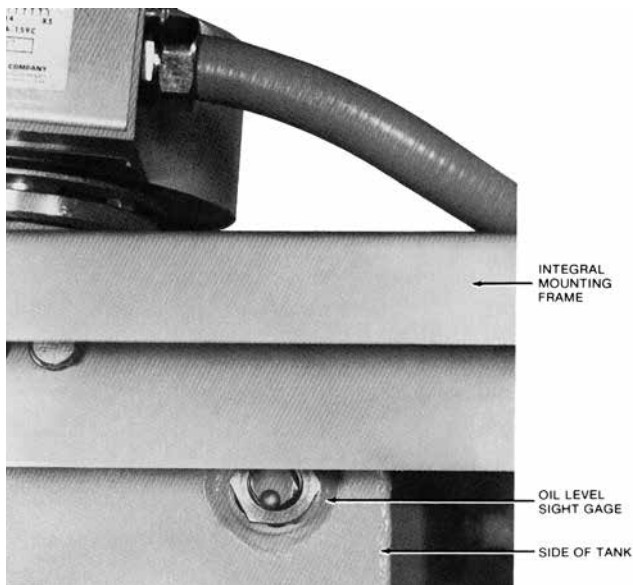

Figure 6. Oil sight gage in side of tank
13. Check the oil level through the oil sight gage in the side of the tank (See Figure 6):